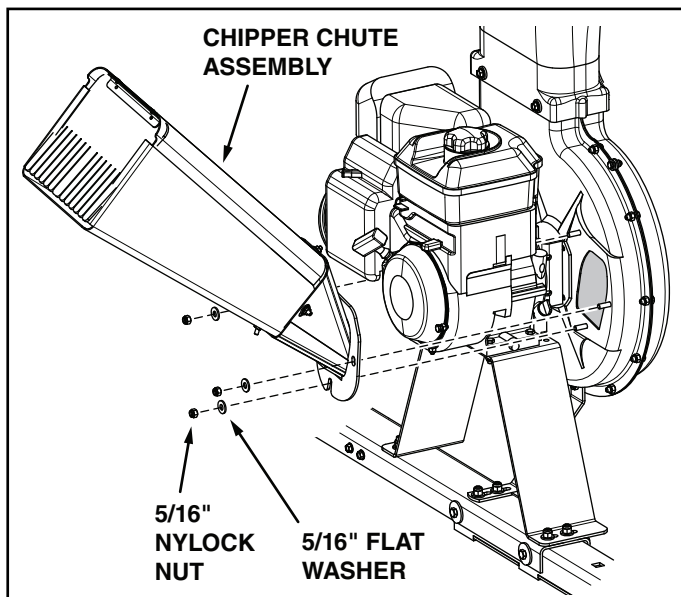

FIGURE 11
17. Attach the chipper chute assembly to the weld bolts on the back side of the impeller housing using three 5/16" flat washers and 5/16" Nylock nuts. **Tighten**. See figure 11.